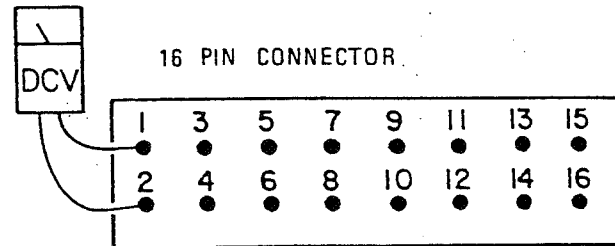

Figure 5-7. Back View Connector E (Model 6001)
3. Use a DC voltage meter 10V scale, or equivalent, and measure the following connector pins located in connector E. See figure 5-7.